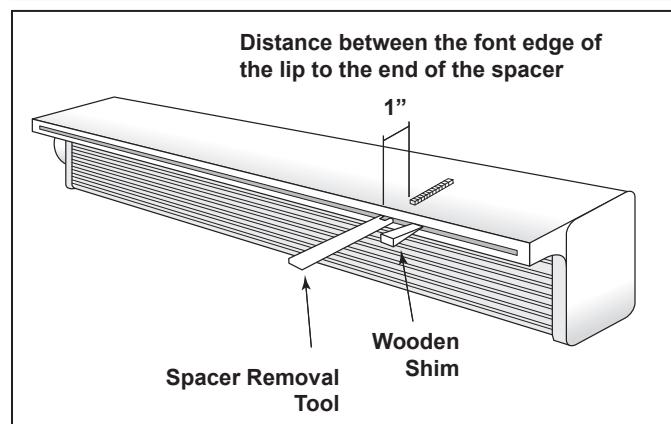

Figure 1. Replacing the Spacer
- Measure the spacer and cut to proper length using the line on the spacer removal tool to determine distance (1") from the end of the spacer to the front edge of the lip. See Figure 1.